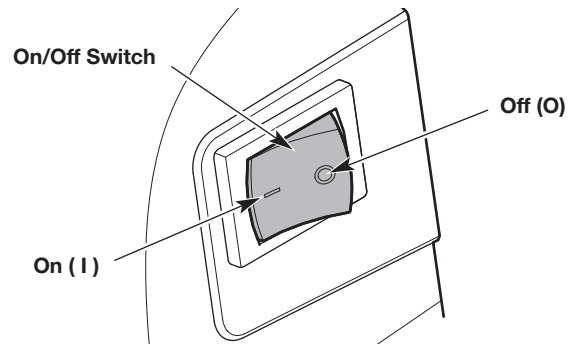

Fig. 8
NOTE: There is no need to turn the unit on. The On/Off switch is in the **On (I)** position at all times (Fig. 8).
2. Press and hold the On/Off switch in the **Off (O)** position until the engine comes to a complete stop (Fig. 8).